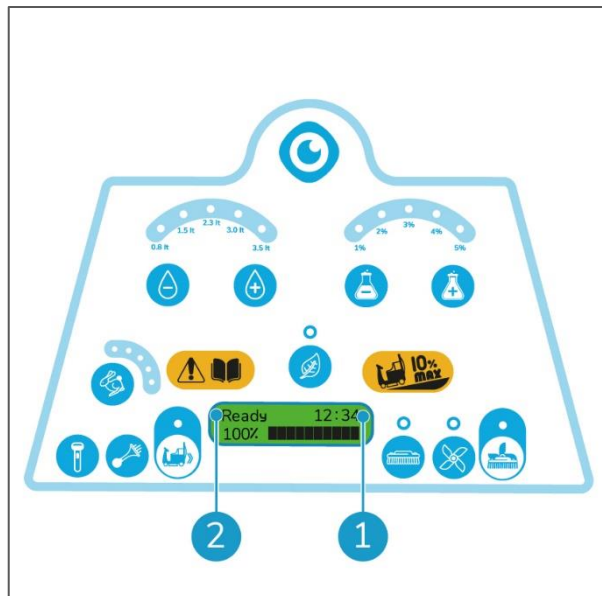

Figure 31
3. Wait until "Ready" (Figure 31, pos 2) appears on the display.
4. The amount of operating hours and minutes spent is shown in the top right corner of the display (Figure 31, pos 1).